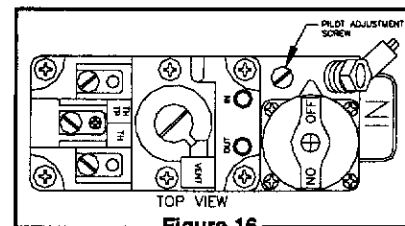

Figure 16
4. Replace screw cover with gasket over pilot adjusting screw. (Figure 16).